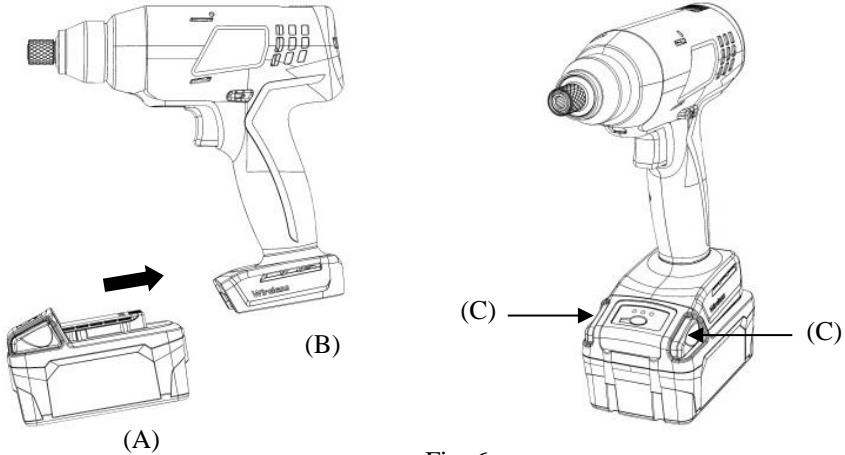

Fig. 6
TO INSTALL BATTERY PACK: Push battery pack (A) onto tool (B) until it locks in place (see Fig. 6).
TO REMOVE BATTERY PACK: Depress the two side release buttons (C) on battery pack and pull battery pack (A) off of tool (B) (see Fig. 6).